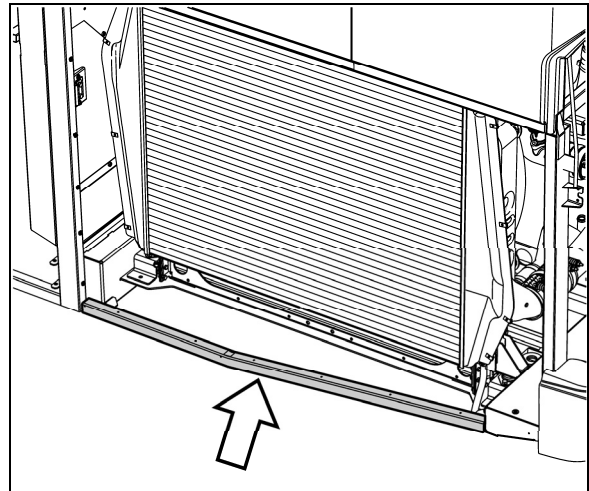

FIGURE 19: LOWER RADIATOR ASSY TUBE PROTECTOR
13. Remove the lower radiator assembly tube protector from the lower section (Fig. 19).